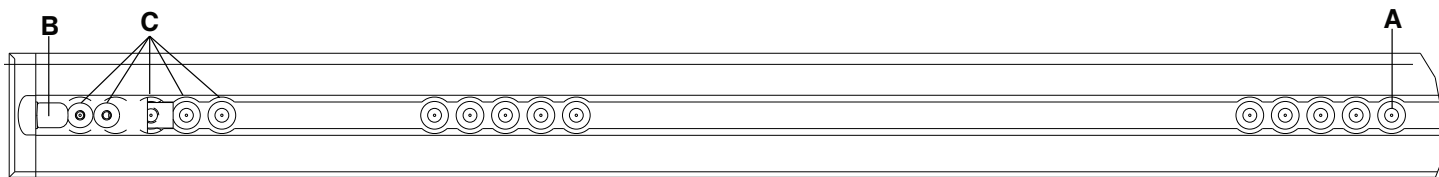

Figure 7 – Floor plate locator position - foot end
Note - If you have a previously installed floor plate without the anchor-to-vehicle cable, measure either 3 in. or 7 in. toward the head end from the locator position A (Figure 7). Mark the location in the middle of the channel. This will be your electrical inlet location. See Installing the floor plate (6390-009-020) for instructions about how to connect the electrical.
Note - The safety hook (B) and extra mounting hole locations (C) are shown for reference only (Figure 7). They are not used for **Performance-LOAD** installation.